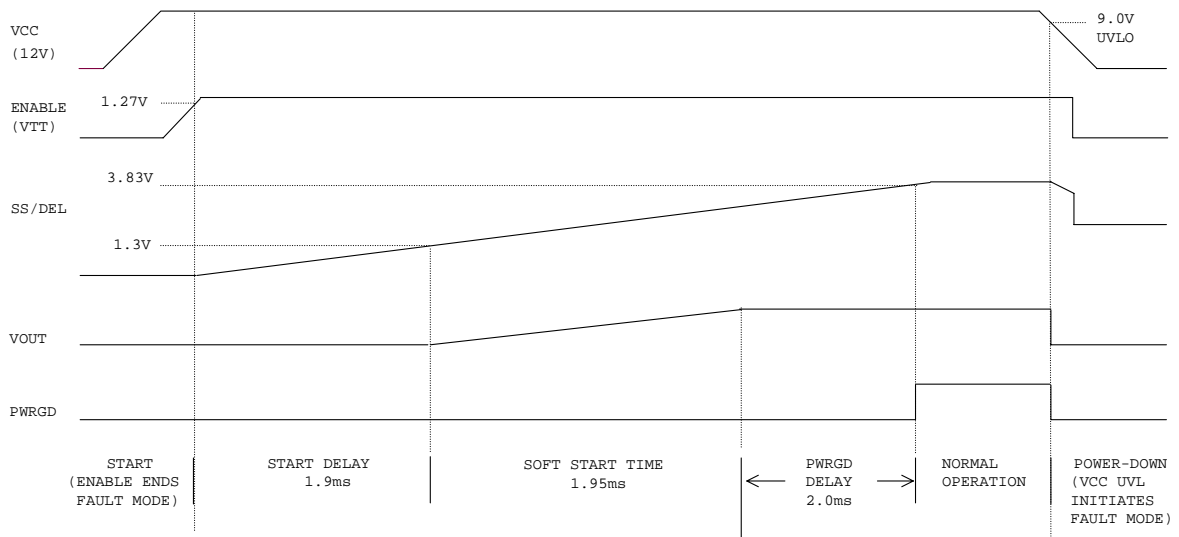

Figure 10 – Start-up Waveforms
The IR3082 has a programmable soft-start function to limit the surge current during the converter start-up. A capacitor connected between the SS/DEL and LGND pins controls soft start as well as over-current protection delay and hiccup mode timing. A charge current of 66 $\mu$ A and discharge current of 6 $\mu$ A control the up slope and down slope of the voltage at the SS/DEL pin respectively. Soft start-up waveforms are shown in Figure 10.
The SS/DEL pin voltage controls the slew rate of the converter output voltage, as shown in Figure 10. After the ENABLE pin voltage rises above 1.23V, there is a soft-start delay time  $t_{SSDEL}$ , after which the error amplifier output is released to allow the soft start. The soft start time  $t_{SS}$  represents the time during which the output voltage rises from zero to  $V_o$ .  $t_{SS}$  can be programmed by an external capacitor, which is determined by Equation (1).